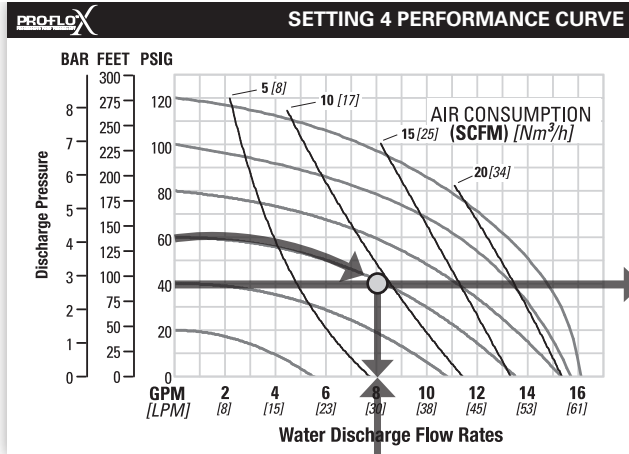

Figure 1
**FIGURE 1** The air valve directs pressurized air to the back side of diaphragm A. The compressed air is applied directly to the liquid column separated by elastomeric diaphragms. The diaphragm acts as a separation membrane between the compressed air and liquid, balancing the load and removes mechanical stress from the diaphragm. The compressed air moves the diaphragm away from the center of the pump. The opposite diaphragm is pulled in by the shaft connected to the pressurized diaphragm. Diaphragm B is on its suction stroke; air behind the diaphragm has been forced out to atmosphere through the exhaust port of the pump. The movement of diaphragm B toward the center of the pump creates a vacuum within chamber B. Atmospheric pressure forces fluid into the inlet manifold forcing the inlet valve ball off its seat. Liquid is free to move past the inlet valve ball and fill the liquid chamber (see shaded area).
**Step 1: Identifying performance at setting 4.** Locate the curve that represents the flow rate of the pump with 4.1 bar (60 psig) air inlet pressure. Mark the point where this curve crosses the horizontal line representing 2.8 bar (40 psig) discharge pressure (Figure 1). After locating your performance point on the flow curve, draw a vertical line downward until reaching the bottom scale on the chart. Identify the flow rate (in this case, 8.2 gpm). Observe location of performance point relative to air consumption curves and approximate air consumption value (in this case, 9.8 scfm).